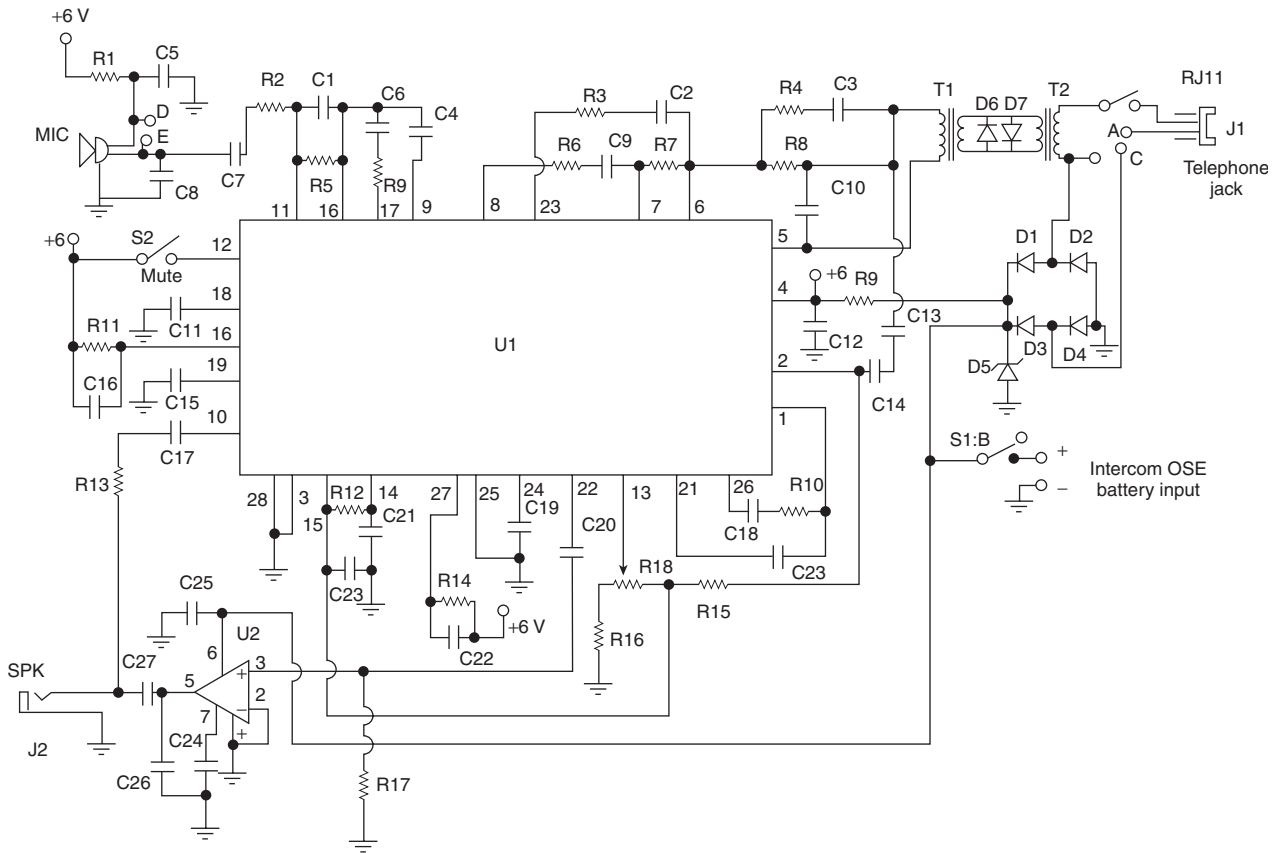

Figure 23-3 Speaker-phone circuit. Courtesy of Ramsey Electronics
The Speaker-phone schematic diagram, in Figure 23-3 also provides a complete diagram of the MC34118's functions. How self-evident the circuit functions seem to you depends on your level of electronics experimenting or learning. Here are the highlights of what makes the SP1 tick. S1(A) and a jumper from B to A connect the